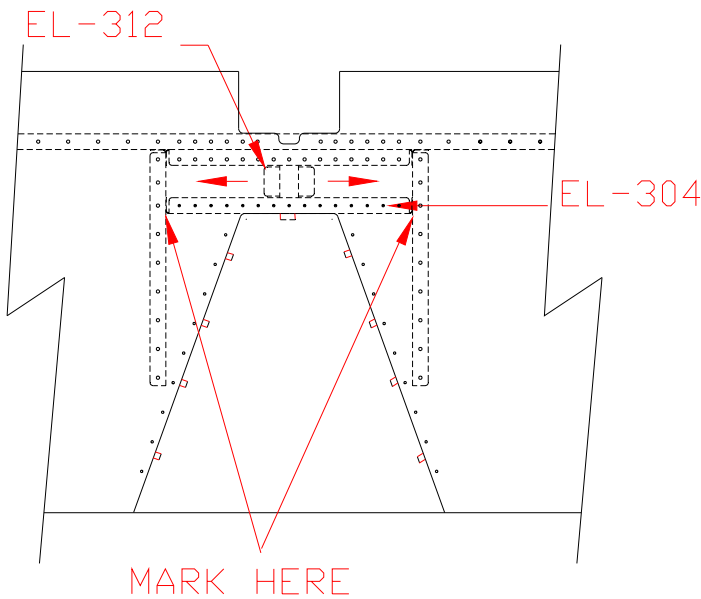

Figure 3.4.3
- 4) Mark the center of the top and bottom flanges of the second Elevator Center Doubler (EL-304). Cleco the two Elevator Stiffener Ribs (EL-312) to the Elevator Spar. Figure 3.4.3.